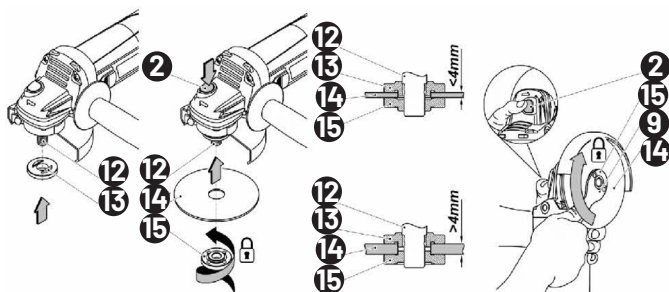

FIG.4
- Press and hold spindle lock (2).
- Loosen clamping nut (15) with flange wrench (9) (see fig. 4).
- Screw clamping nut (15) onto spindle (12) and tighten with flange wrench (9).